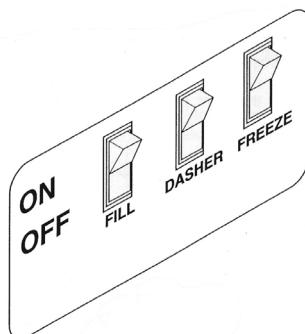

Fig. 33
5. Set the dasher switch (Fig. 33) to the "ON" position and let the unit agitate for approximately three to five minutes.